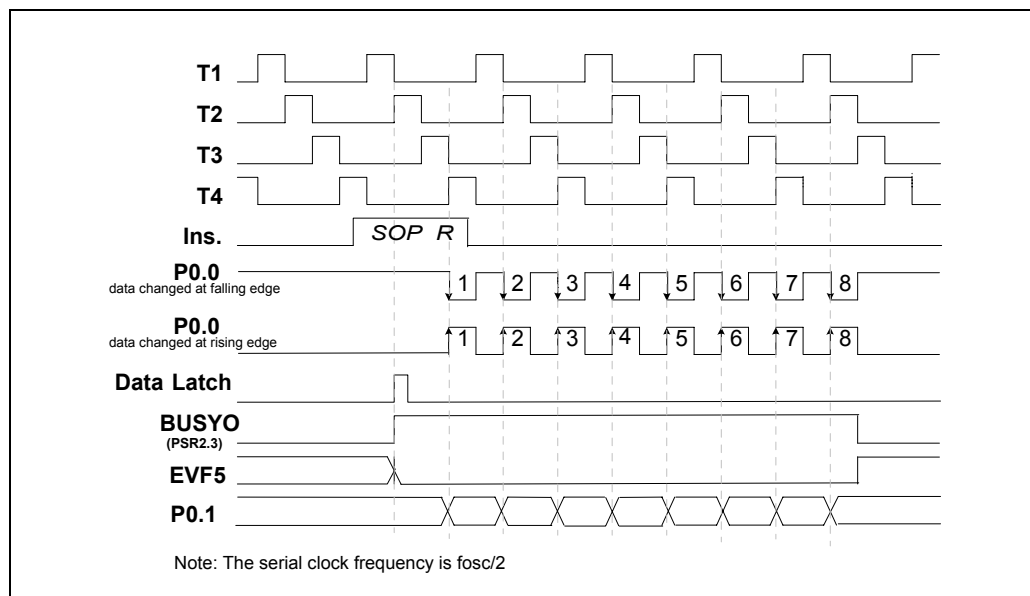

Figure 5-13 Timing of the Serial Output Function (SOP R)
(2) When the **SOP R** instruction is executed, the data will be loaded to the serial output buffer (SOB) from ACC and the RAM, the low nibble data of SOB is from ACC register and the high nibble data is from RAM, and bit 3 of port status register 2 (PSR2) will be set to "1" ( $BUSY_O = 1$ ). Then the P0.0 pin will send out 8 clocks or accept 8 clocks from external device and the data in SOB will be sent out at the rising or falling edge of the P0.1 pin. After the 8 clocks have been sent,  $BUSY_O$  will be reset to "0" and EVF.5 will be set to "1." At this time, if IEF.5 has been set ( $IEF.5 = 1$ ), an interrupt is executed; if HEF.5 has been set ( $HEF.5 = 1$ ), the hold state is terminated. Users can check the status of PSR2.3 ( $BUSY_O$ ) to know whether the serial output process is completed or not. If a serial output process is not completed, but the SOP R instruction is executed again, the data will be lost. The timing is shown in Figure 5-13.